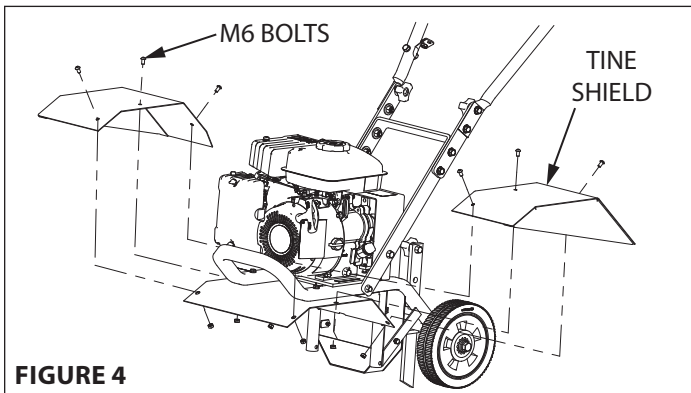

FIGURE 4
5. Assemble tine shield extensions using six (6) M6 bolts and six (6) nylock nuts. **SEE FIGURE 4**